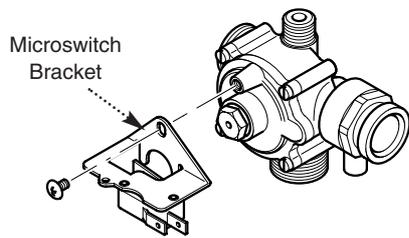

Fig. 63
12.21 Central Heating Differential Valve (Figs. 63 & 64)